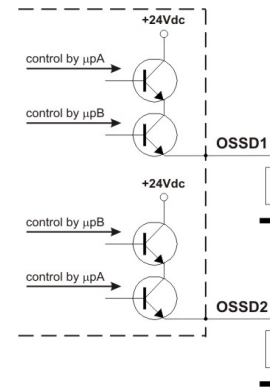
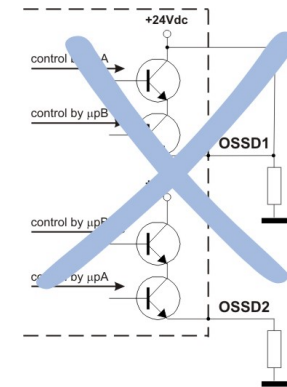

Fig. 15
Fig. 16
- The safety contacts OSSD1 and OSSD2 cannot be connected in series or in parallel; both can be used separately (Fig.15). If one of these configurations is wrongly used (Fig.16, 17, 18), the device enters into the output failure state (see *cap.7 "Diagnostic functions"*).